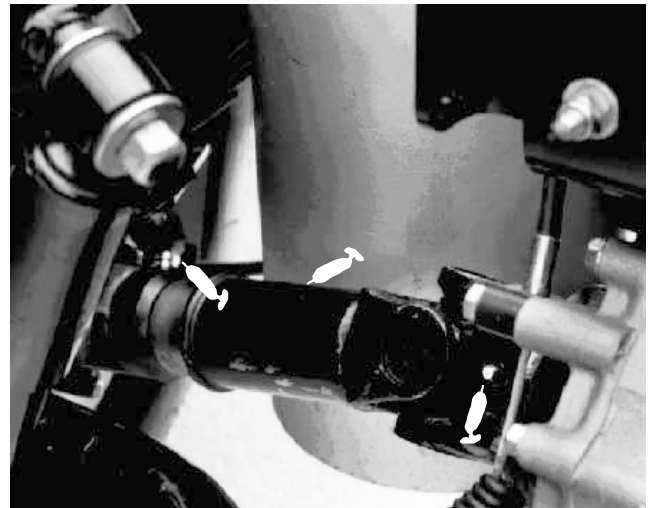

Figure 2
- B. **Nine** on each rear drive shaft (Fig. 2).